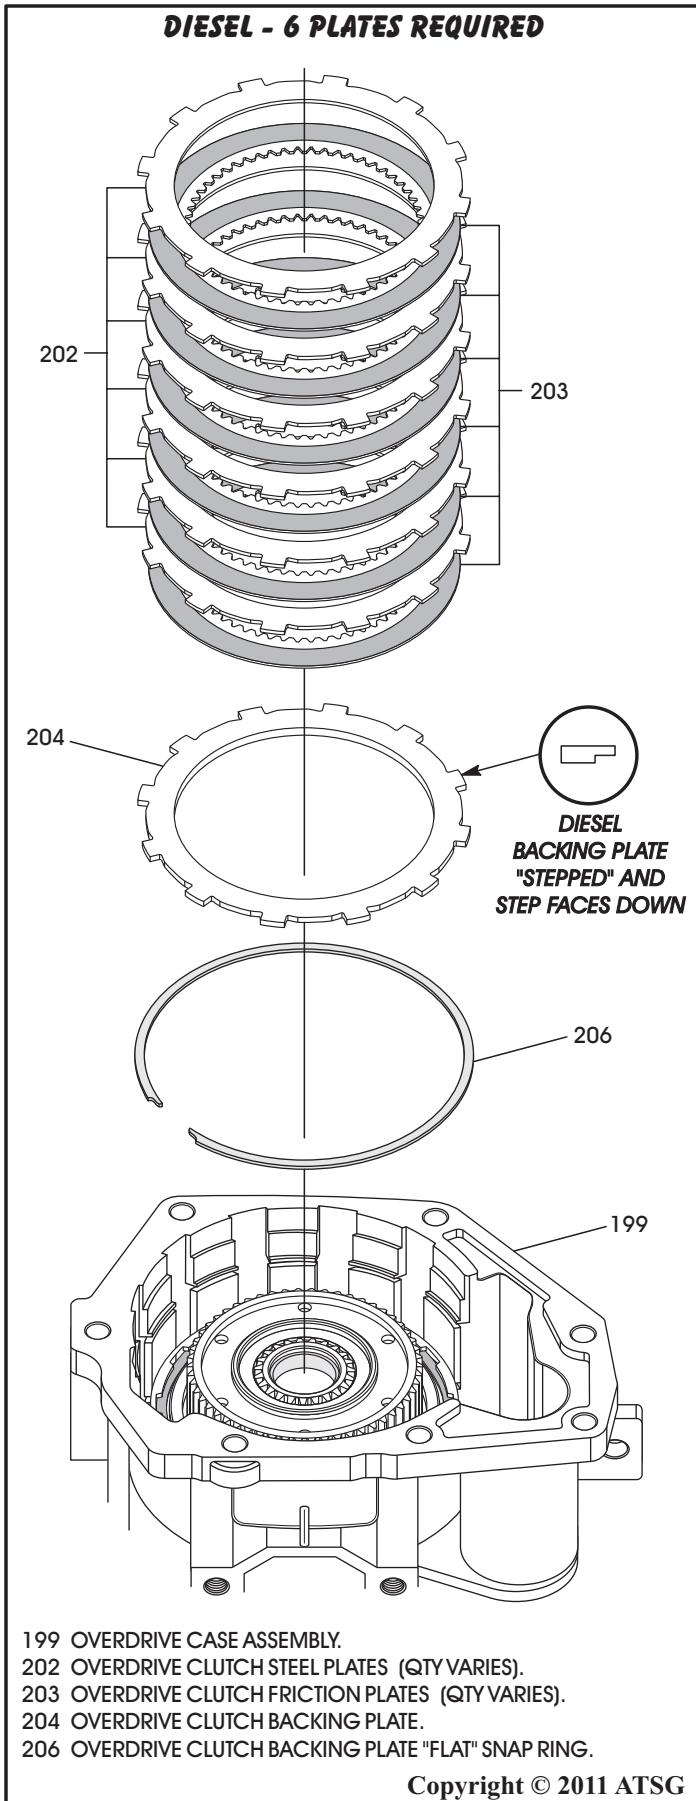

Figure 150
*Note: Notice that the gasoline backing plate has no step. The Diesel backing plate uses a stepped backing plate (See Figure 150).*
*Note: The Diesel does not use the "waved" snap ring (See Figure 150).*
10. Remove the overdrive clutch pack for Diesel engines which require 6 friction and 6 steel plates, as shown in Figure 150.
11. Remove the overdrive clutch backing plate, as shown in Figure 150.
12. Remove the overdrive clutch backing plate "flat" snap ring, as shown in Figure 150.